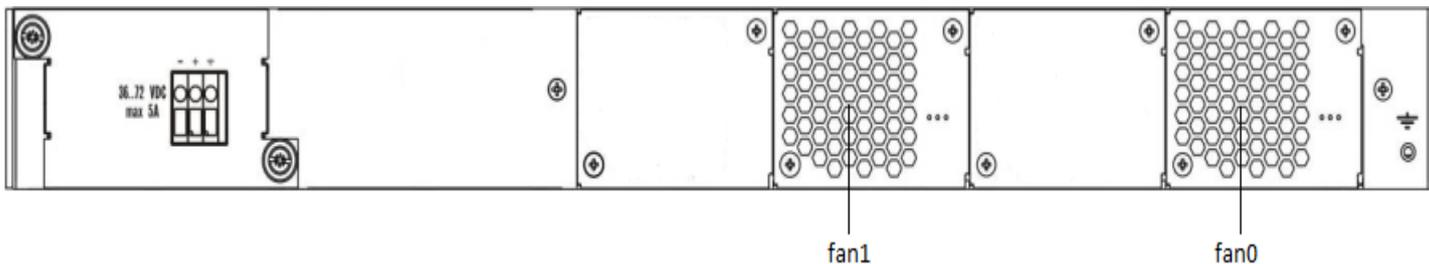
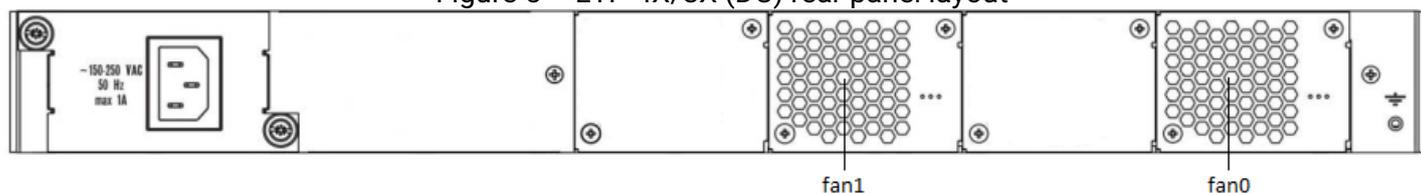
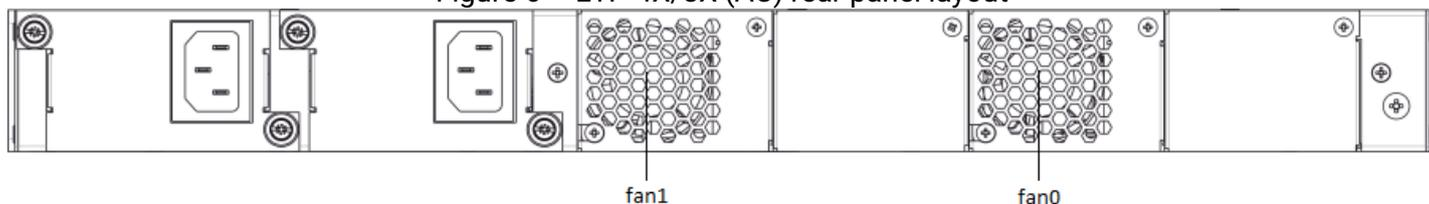

Figure 5 – LTP-4X/8X (DC) rear panel layout
Figure 6 – LTP-4X/8X (AC) rear panel layout
Figure 7 – Rear panel layout of LTP-4X/8X rev.C with two power adapters
The rear panel layout of the device is depicted in Fig. 5, 6, 7.
There are ventilation openings on the device rear, front and side panels that serve to remove heat. The rear panel has two ventilation units installed (Fig. 5, Fig. 6, Fig. 7).
- **Step 2.** Ground the case of the device. This should be done prior to connecting the device to the power supply. An insulated multiconductor wire should be used for earthing. The device grounding and the earthing wire section should comply with Electric Installation Code. The earth bonding point is located on the rear panel, see Figures 5, 6, 7.